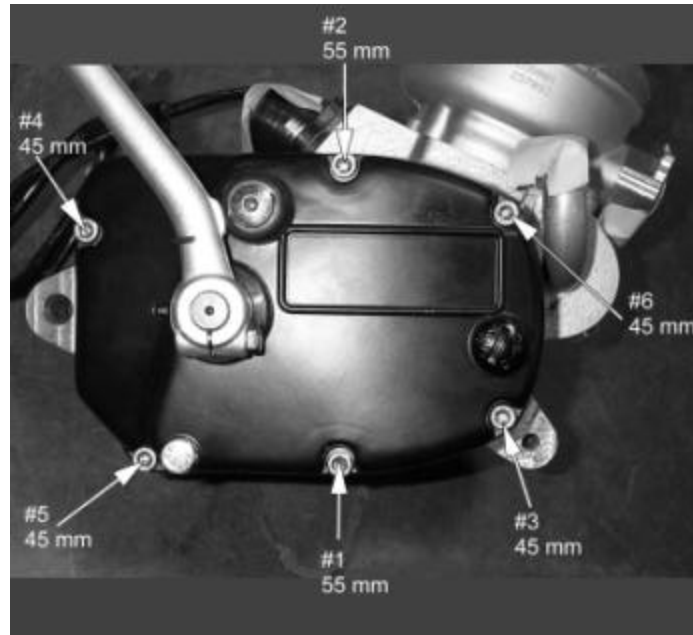

Figure 19
8. Install the clutch cover taking care to put the two longer bolts in their proper locations and tightening in the order specified in figure 19. (5mm hex key, 5.8 ft-lb, 7.8 Nm)